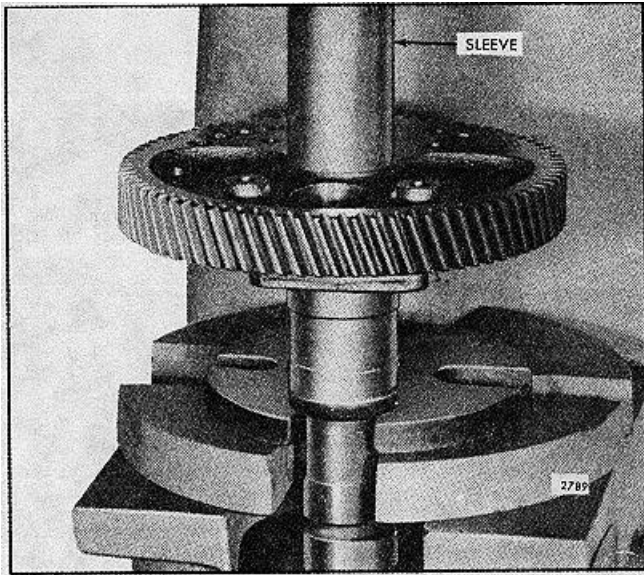

FIG. 5 - Installing Camshaft Gear
4. Then, with the camshaft supported in an arbor press, place a sleeve on top of the gear and press the gear tight against the shoulder on the shaft (Fig. 5).